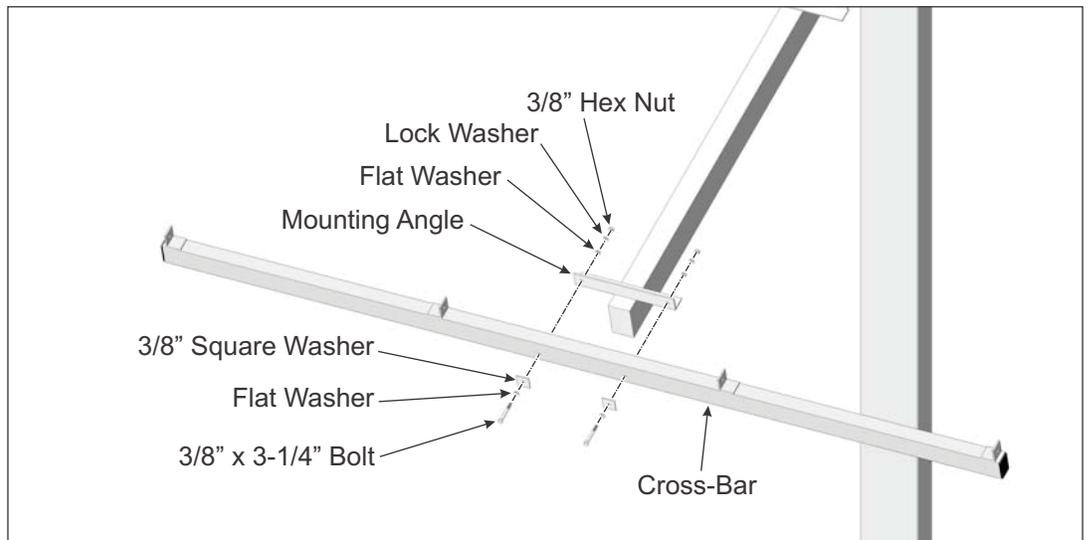

Figure 3-2: Installing Cross-Bars to Strongback
- A. Starting at the south location, position the Cross-Bar on the outside of the mounting angle of the Strongback. Align the mounting holes and secure using 3/8” flat and square washers along with the 3/8” x 3-1/4” bolts and lock washer placing the square flat washer against the Cross-Bar. Tighten hardware and **Torque to 30-32 ft.-lbs.** (See Figure 3-2)
B. Continue in this manner and install the remaining three Cross-Bars to the Strongback. Refer to Figure 3-2 as needed for proper positioning.